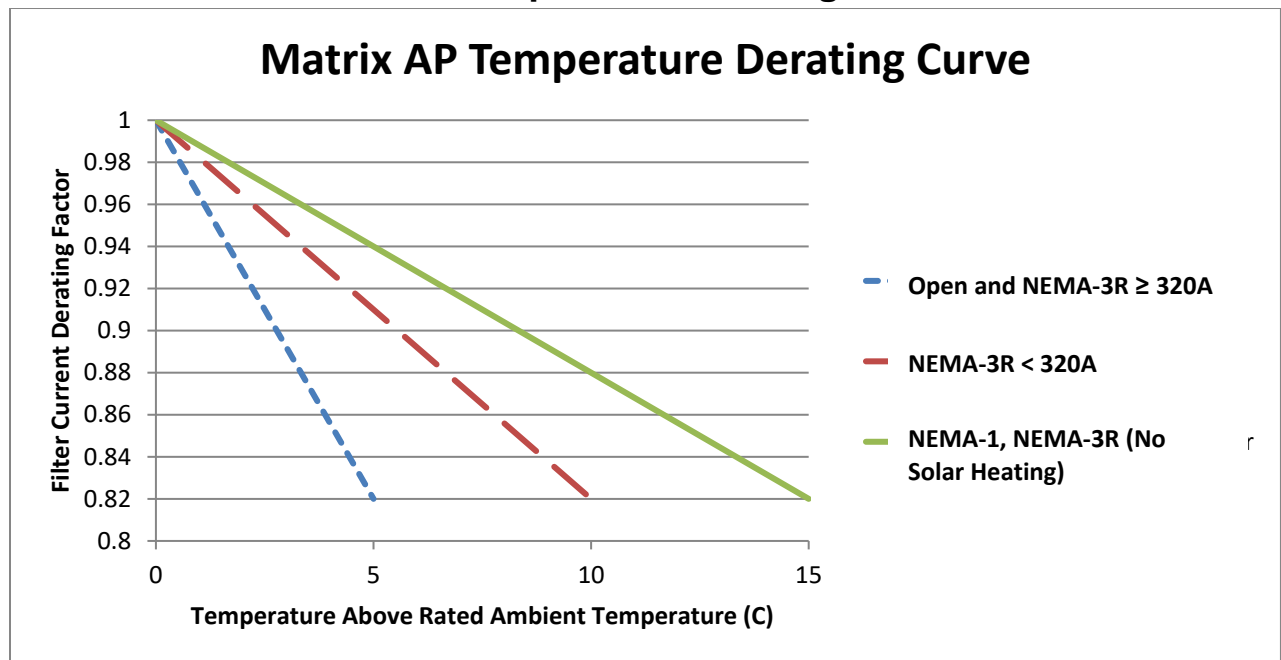

Figure 3-5: Temperature Derating
- ☐ **Temperature:** See Table 3-1: Performance Specifications (p5) for specification, and Figure 3-5: Temperature Derating (p13) for temperature derating.